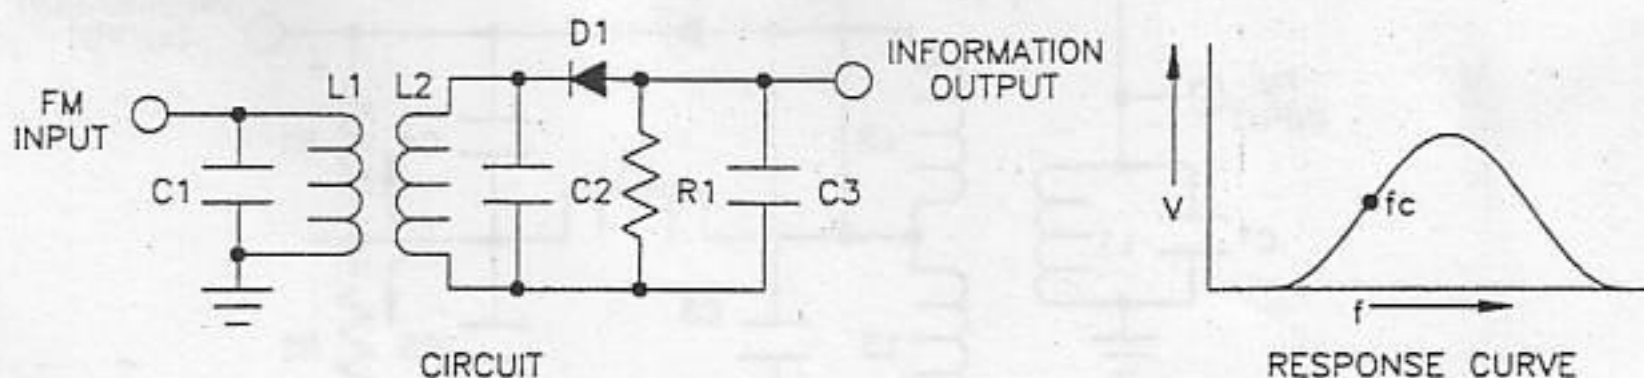

Figure 12. Slope Demodulator Circuit
The simplest FM demodulator is the slope detector as shown in Figure 12. The action of the circuit is based on tuning the carrier frequency to the mid point on a response curve of two tuned circuits. You will construct this circuit in the experiment.
The circuit consists of two tuned circuits and an AM detector! $C1/L1$ and $C2/L2$ are the tune circuits that produce a response curve as shown in Figure 12. The circuits are tuned so that the carrier frequency, f_c , falls on the front slope of the response curve approximately half way up. When the FM signal input is at the center frequency, no modulation, the output to D1 is an average level. When the FM signal frequency increases, due to modulation, the output to D1 increases because the increased frequency approaches the peak of the response curve. When the FM signal frequency decreases, the output to D1 decreases because the decreased frequency is further down on the response curve. The action simply amplitude modulates the FM input signal.
3. Refer to Figure 12. Which components determine where the center frequency of the FM signal will fall on the response curve?